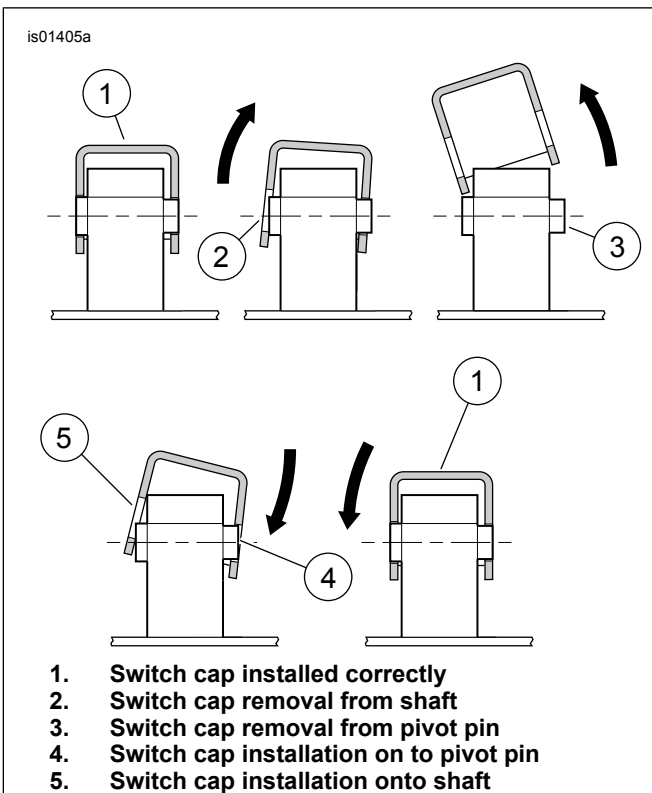
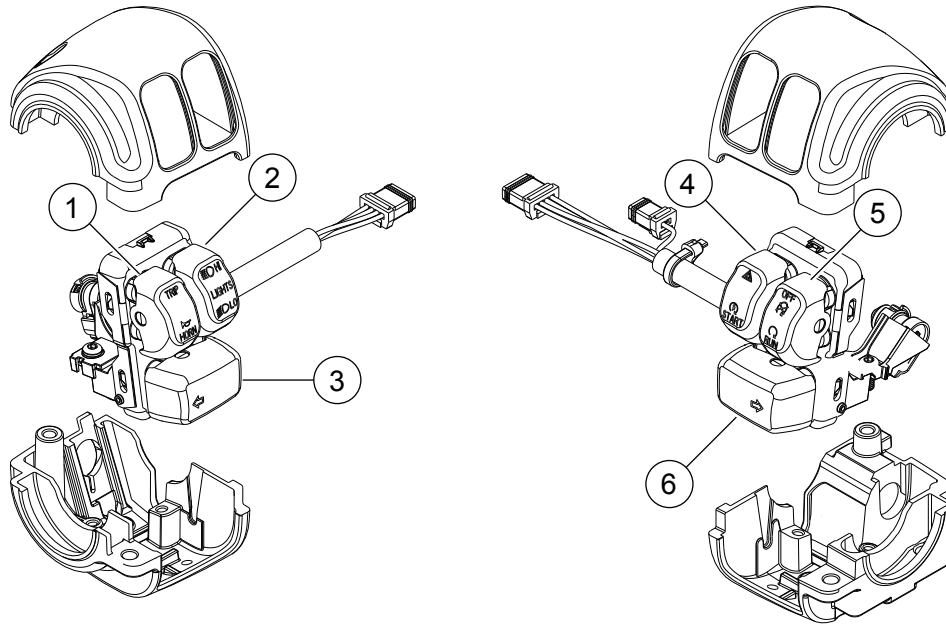

Figure 1. Switch Cap Removal and Replacement
Figure 2. Service Parts: Handlebar Switch Caps
See Figure 2 and Table 1.
1. See Figure 1 and Figure 2. Carefully pry stock black switch cap up off the pivot pin shaft (2) on left side of switch.
2. Pry the switch cap up and away from pivot pin (3) on right side of switch and remove cap.
3. See Figure 2. Select proper replacement switch cap from kit.
4. See Figure 1. Place cap onto switch, angling the hole on right side over pivot pin (4) on switch.
5. Carefully press switch cap down onto left side pivot pin (5), rocking and moving the cap until shaft snaps into place.
1. See Figure 1 and Figure 2. Carefully pry stock black switch cap up off one of the pivot pins on switch.
2. Pry the switch cap up and away from the other pivot pin (3) on switch, and remove cap.
4. See Figure 1. Place cap onto switch, angling the hole on top over pivot pin (4) on switch.
5. Carefully press switch cap onto other pivot pin (5), rocking and moving the cap until shaft snaps into place in the hole.